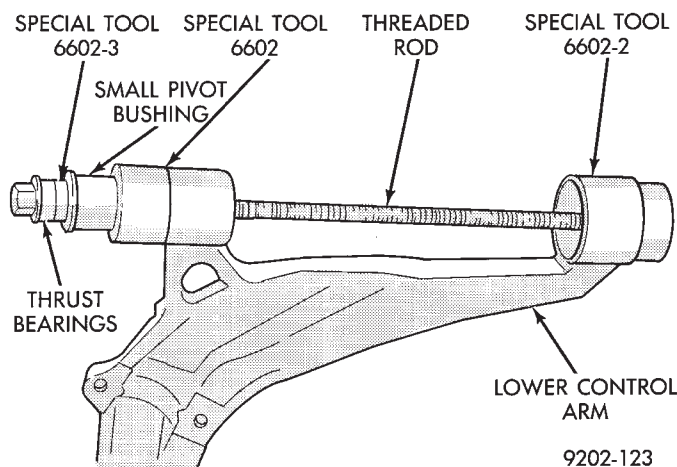

Fig. 8 Bushing And Tool Position For Installation In Control Arm
(3) Install the pieces assembled in step 2 through the small and large pivot bushing holes in the lower control arm. At the large pivot bushing hole in the lower control arm, assemble Cup, Special Tool 6602-2, thrust bearing, washer and nut (Fig. 8). Cup, Special Tool 6602-2 is to be installed on threaded rod with cup facing out and undercut in large bushing hole of lower control arm (Fig. 8). Lubricate the installer cone and new bushing using Mopar®, Silicone Spray Lube or equivalent.
(4) Hold the threaded rod stationary and turn the long nut until the small pivot bushing is fully installed into the lower control arm. Be sure that the flanges of the bushing are fully expanded around the control arm bushing holes.